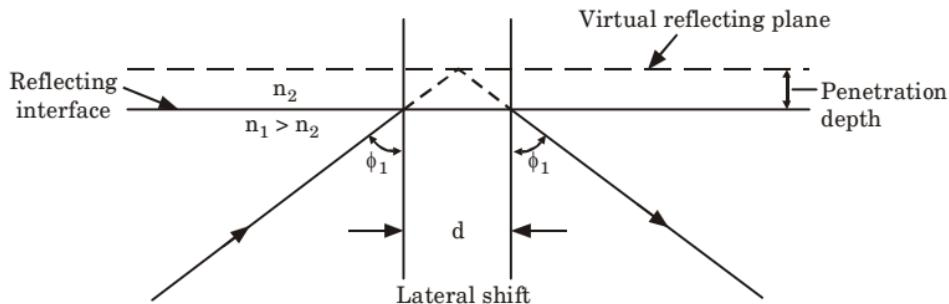

Fig. 1.6.1. The lateral displacement of a light beam on reflection at a dielectric interface (Goos-Hanchen shift).
2. Careful examination shows that the reflected beam is shifted laterally from the trajectory predicted by simple ray theory analysis, as illustrated in Fig. 1.6.1.